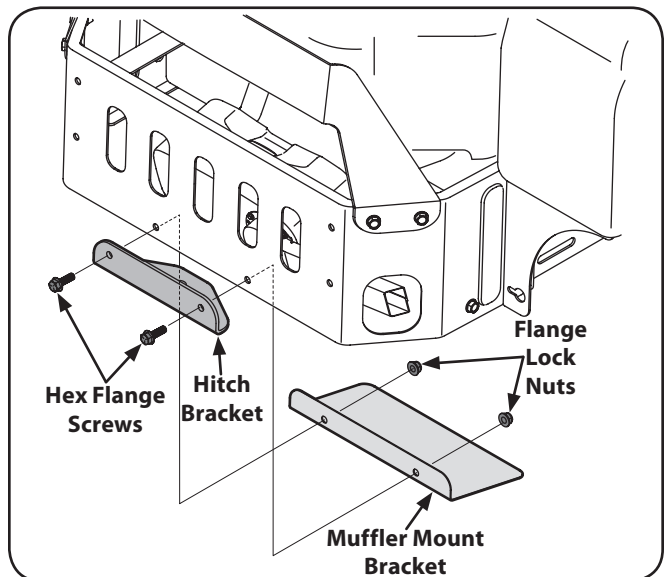

Figure 3-6
1. Remove the hex flange screws and flange lock nuts that secure the hitch bracket and muffler mount bracket to the bumper bracket. See Figure 3-6.